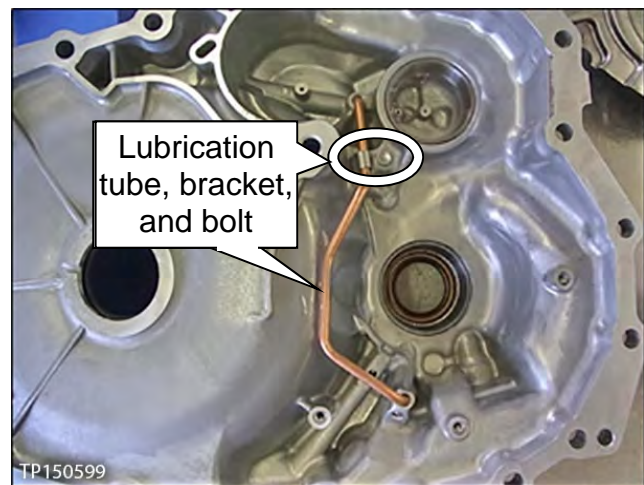

Figure 124
b. Remove the bolt and then remove the lubrication tube and its bracket (Figure 124).